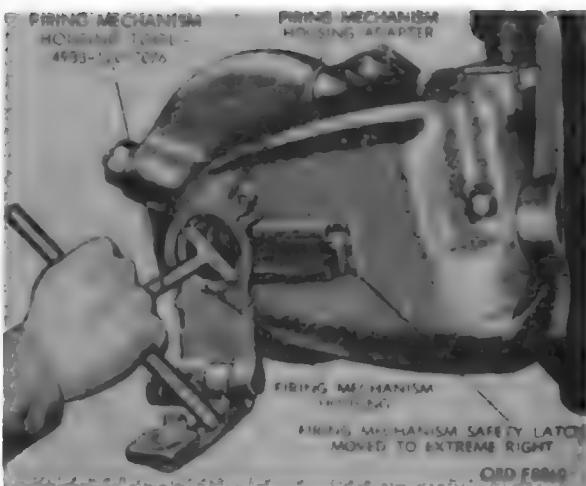

Figure 109. Removing or installing firing mechanism housing.
- (5) Remove the socket head cap screw (fig. 108) holding the firing mechanism safety latch stop to the rear face of the breechblock carrier. The stop and firing mechanism safety latch spring may fly off when the screw is removed and should be retained by the hand and removed after the screw is out. Move the safety latch to the extreme right (fig. 109).
- (6) Unscrew and remove the firing mechanism housing (fig. 109), using the firing mechanism housing tool. This releases the firing mechanism housing adapter, the obturator spindle with obturating parts, and the gas-check pad compressing spring (fig. 110).
(5) To set headspace, disassemble the breech mechanism sufficiently to allow the firing mechanism housing to be screwed into the housing adapter. Screw the housing in until it seats against the obturator spindle, then back the housing off until the firing safety latch (fig. 109) and firing mechanism housing lock screw (fig. 107) can be inserted. See paragraph 84(1) through (5) for disassembly procedure.
(6) Recheck with headspace gage to assure proper headspace. When headspace is correct, assemble the breech mechanism (para 86h).
(2) Slide the firing mechanism safety latch plunger into the safety latch (fig. 64). Start the firing mechanism safety latch and plunger into the carrier from the left. Push the plunger forward until its front end is approximately flush with the front end of the latch, then push the latch and plunger to the extreme right (fig. 109). The plunger will now clear the bore of the carrier and permit assembly of the firing mechanism housing adapter.
(4) Place the gas-check pad compressing spring into the rear bore of the carrier (fig. 110) and press the firing mechanism housing adapter in behind the spring fitting the key on the left side of the adapter in the keyway in the left wall of the carrier bore. Insert the firing mechanism housing into the adapter and, while pressing forward on the adapter to compress the spring, screw the housing onto the rear end of the obturator spindle using the firing mechanism housing tool (fig. 109). Check the split rings for proper position under the head of the obturator spindle.
(5) Screw the firing mechanism housing onto the obturator spindle (fig. 109).